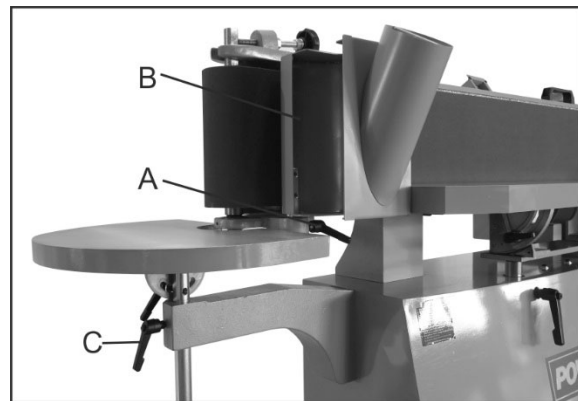
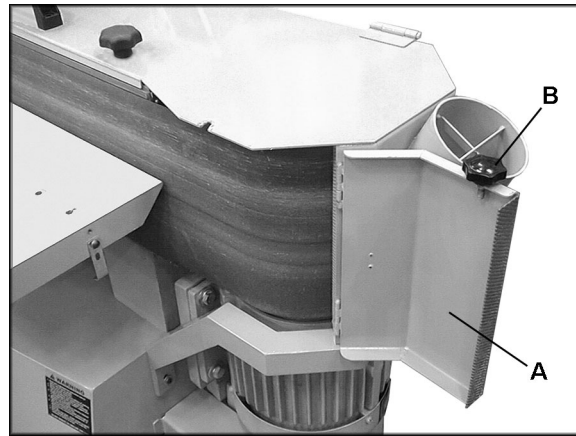
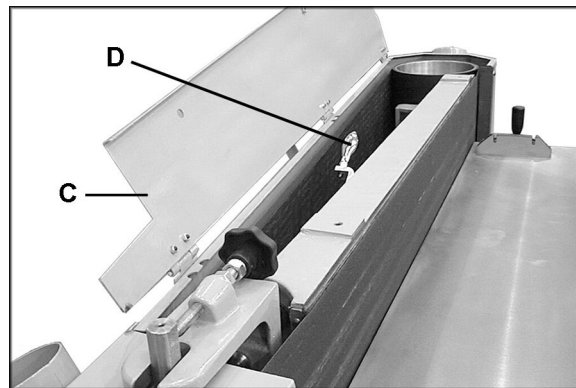

Figure 13
Figure 15
Figure 16
The end table allows contour sanding. Loosen the locking handle (A, Figure 13) and swing the dust hood (B, Figure 13) away from the belt as shown. In some cases the dust hood may have to be removed entirely.
Loosen locking handle (C, Figure 13) to raise or lower the end table. Tighten locking handle after adjustment.
The end guard (A, Figure 15) on the right side of the machine can be swung out of the way for sanding long workpieces. (The miter gauge will need to be removed for such a procedure.)
Loosen the hand knob (B, Figure 15) and swing open the end guard all the way until it catches the latch behind it. When finished with the operation, close the end guard and tighten the hand knob.
2. Swing the end guard (Figure 15) out of the way, then open the belt guard (C, Figure 16). Also swing the dust hood out of the way (see Figure 13).
3. Release tension on the belt by pulling the tension lever (D, Figure 16) all the way up until it stops against the screw head.
5. Tension the belt by pushing the lever (A, Figure 16) all the way down.